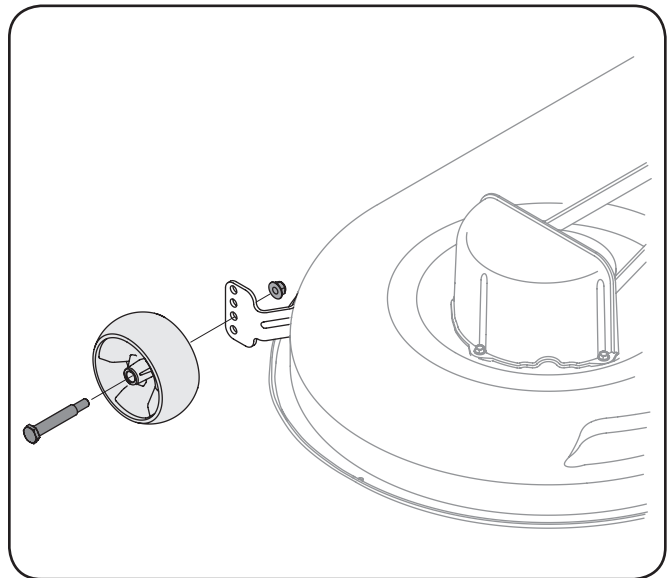

Figure 3-4
- b. Remove the front and rear gauge wheels by removing the lock nuts and shoulder screws which secure them to the deck. See Fig. 3-4.